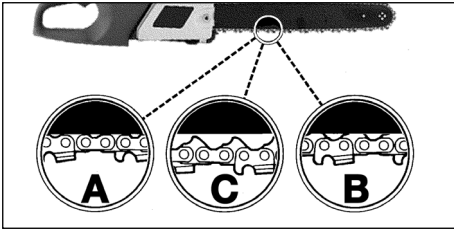

Fig. 6
Caution: If saw chain is **TOO LOOSE** or **TOO TIGHT**, the sprocket, bar, chain, and crankshaft bearings will wear more rapidly. Study Fig. 6 for information concerning correct cold tension (A), correct warm tension (B), and as a guide for when saw chain needs adjustment (C).